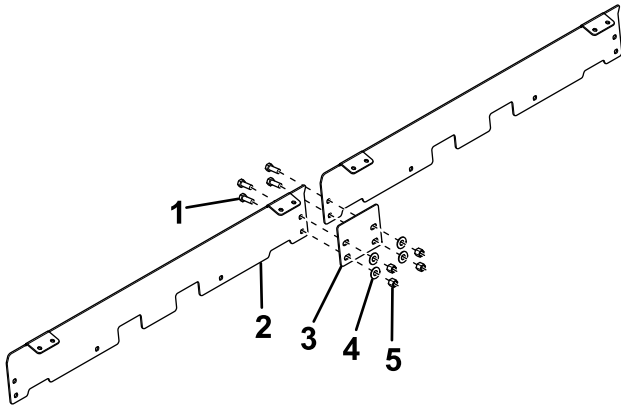
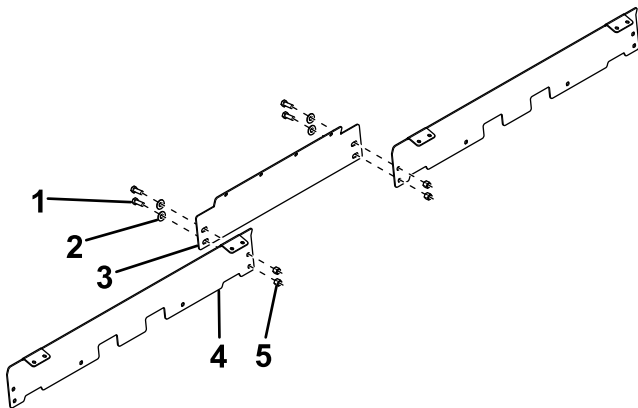

Figure 7
Figure 8
- Connect the material shields together using 4 bolts (3/8 x 1 inch), 4 washers, and 4 nuts as shown in Figure 7 or Figure 8.